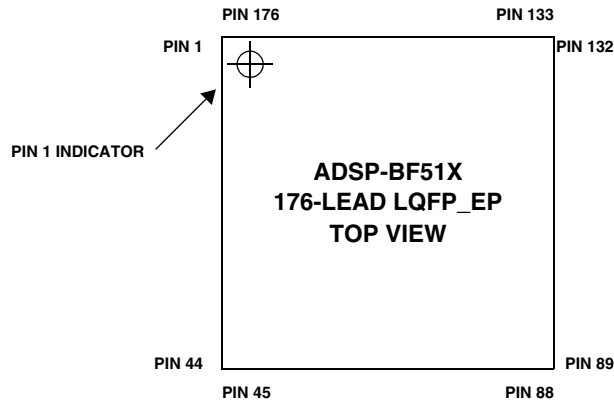
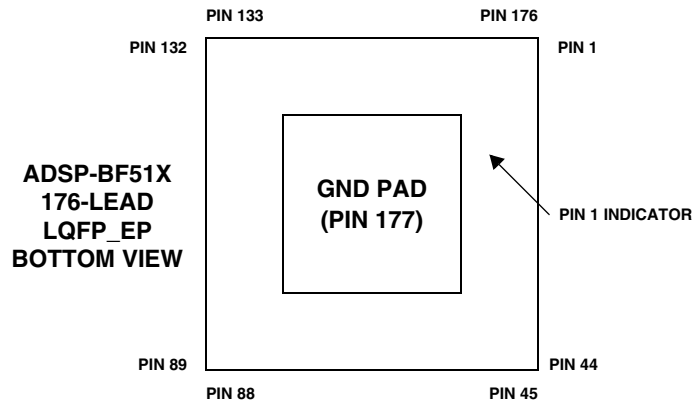

Figure 68. 176-Lead LQFP_EP Lead Configuration (Top View)
Figure 69. 176-Lead LQFP_EP Lead Configuration (Bottom View)
* Pin no. 177 is the GND supply (see Figure 69) for the processor; this pad **must** connect to GND.
Figure 68 shows the top view of the LQFP_EP lead configuration. Figure 69 shows the bottom view of the LQFP_EP lead configuration.